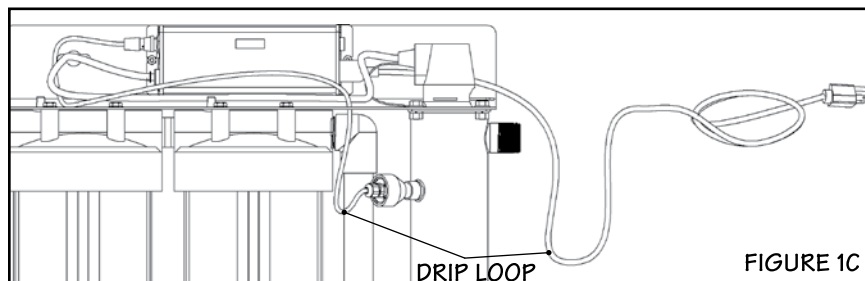
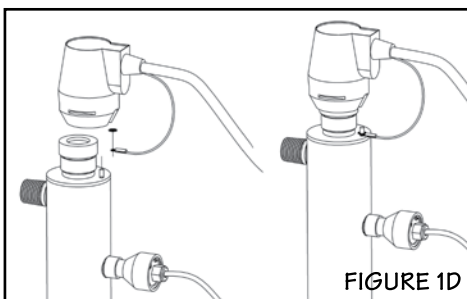

FIGURE 1C
FIGURE 1D
- The disinfection system is designed to be installed at point-of-entry. Drip loops in all cordage connected to ballast controller is highly recommended (see figure 1D).
4. Make sure you allow for a "drip-loop" on the power cord and sensor (SCM series) to prevent any water from potentially entering the controller. Run lamp and sensor cord under ballast, to prevent water from potentially entering the controller (Figure 1C). Affix the green ground wire to the grounding lug at the top of the reactor vessel and securely fasten with the lugnut provided (Figure 1D).